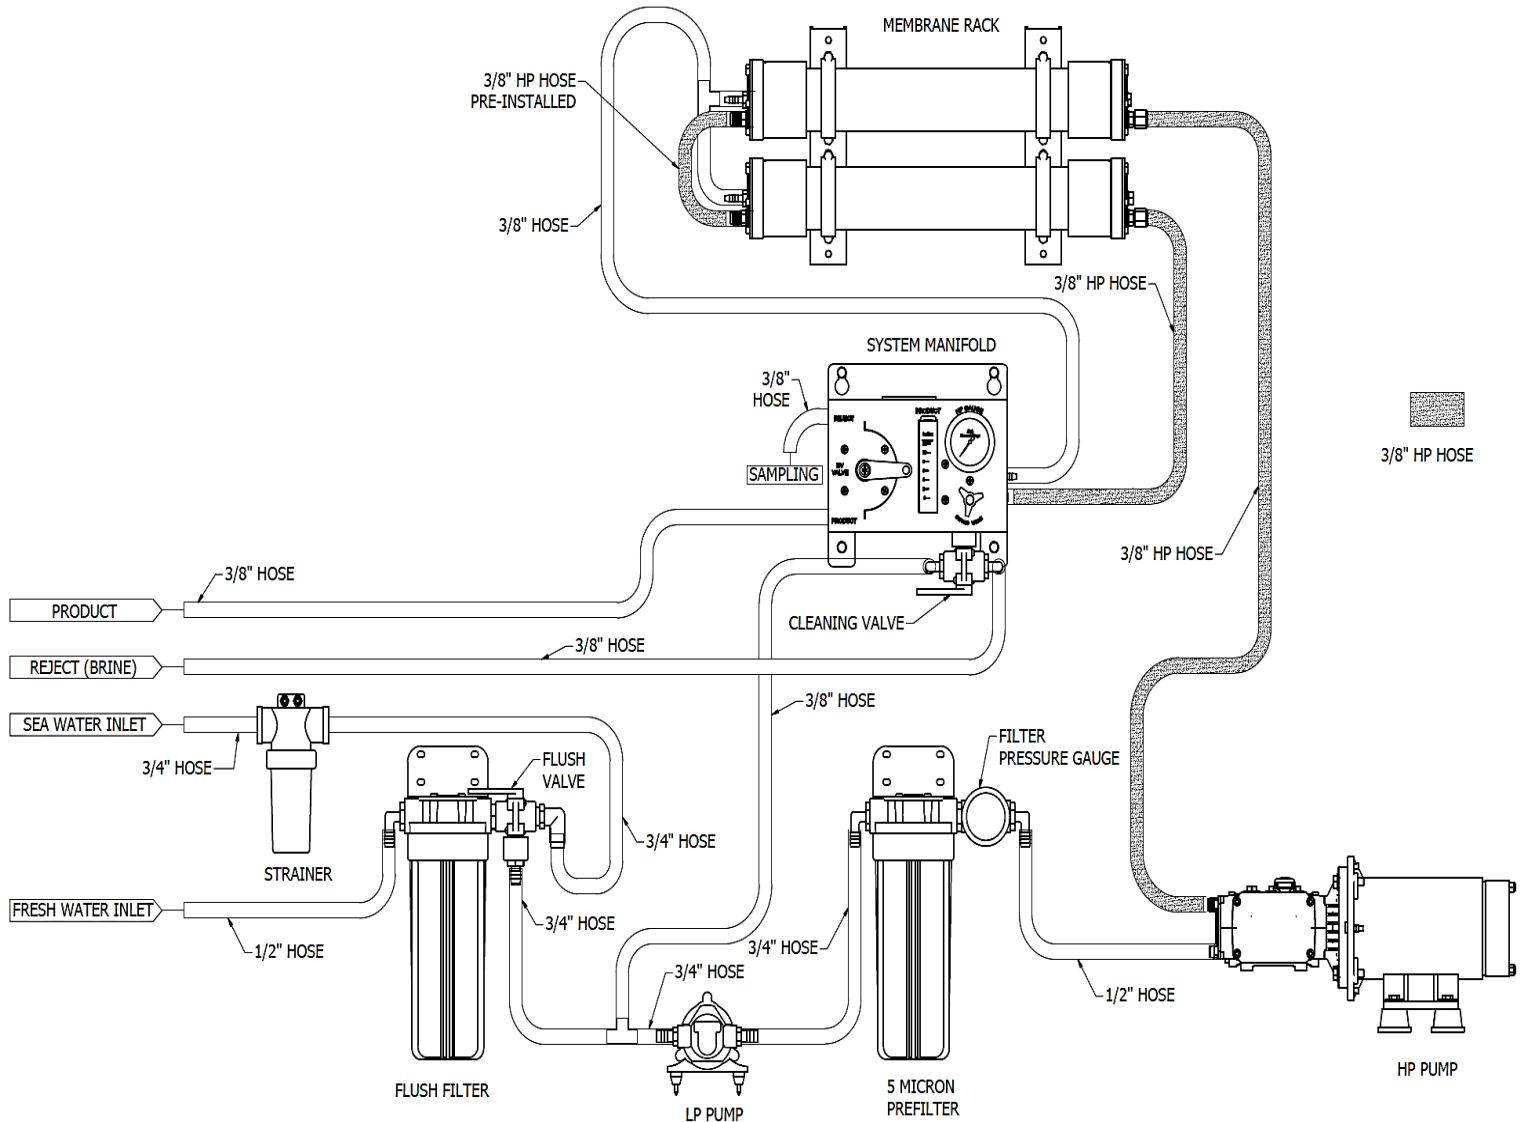

Figure 1.3: Plumbing Diagram 500-1800 (NO SALINITY MONITOR)
- 2) Mount the three-way manual Freshwater Flush Valve (attached to Fresh Flush Filter Housing) **BELOW** waterline. Refer to Figure 1.3 for a view of the flush filter and freshwater flush valve.